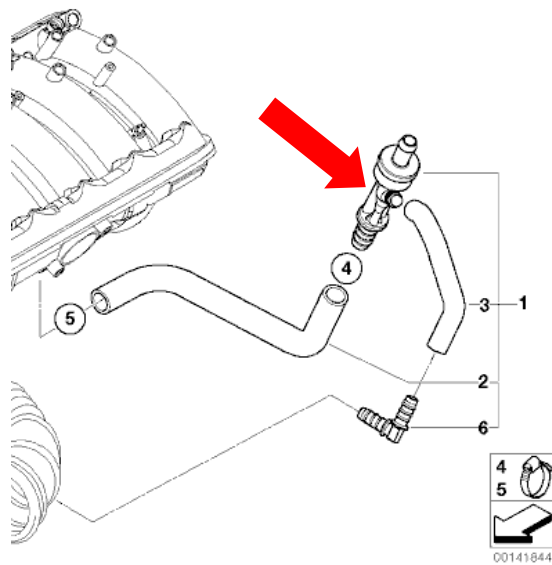
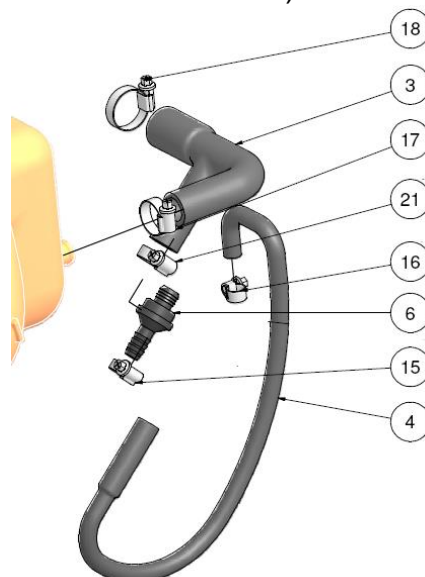

Figure 27
Figure 28
1. Prepare the ejector pump (Figure 27, red arrow). Remove the hose (Figure 27, #3 & 6). These components can be dispensed.
2. Connect the hose for the idle air control valve (Figure 28). Figure 28 #18 has to be installed at the idle air control valve. Figure 28 #16 is routed to the ejector nozzle (Figure 27 where #3 was connected).
5. Mount the hose of the idle air actuator on the intake tube (Figure 28, #17)